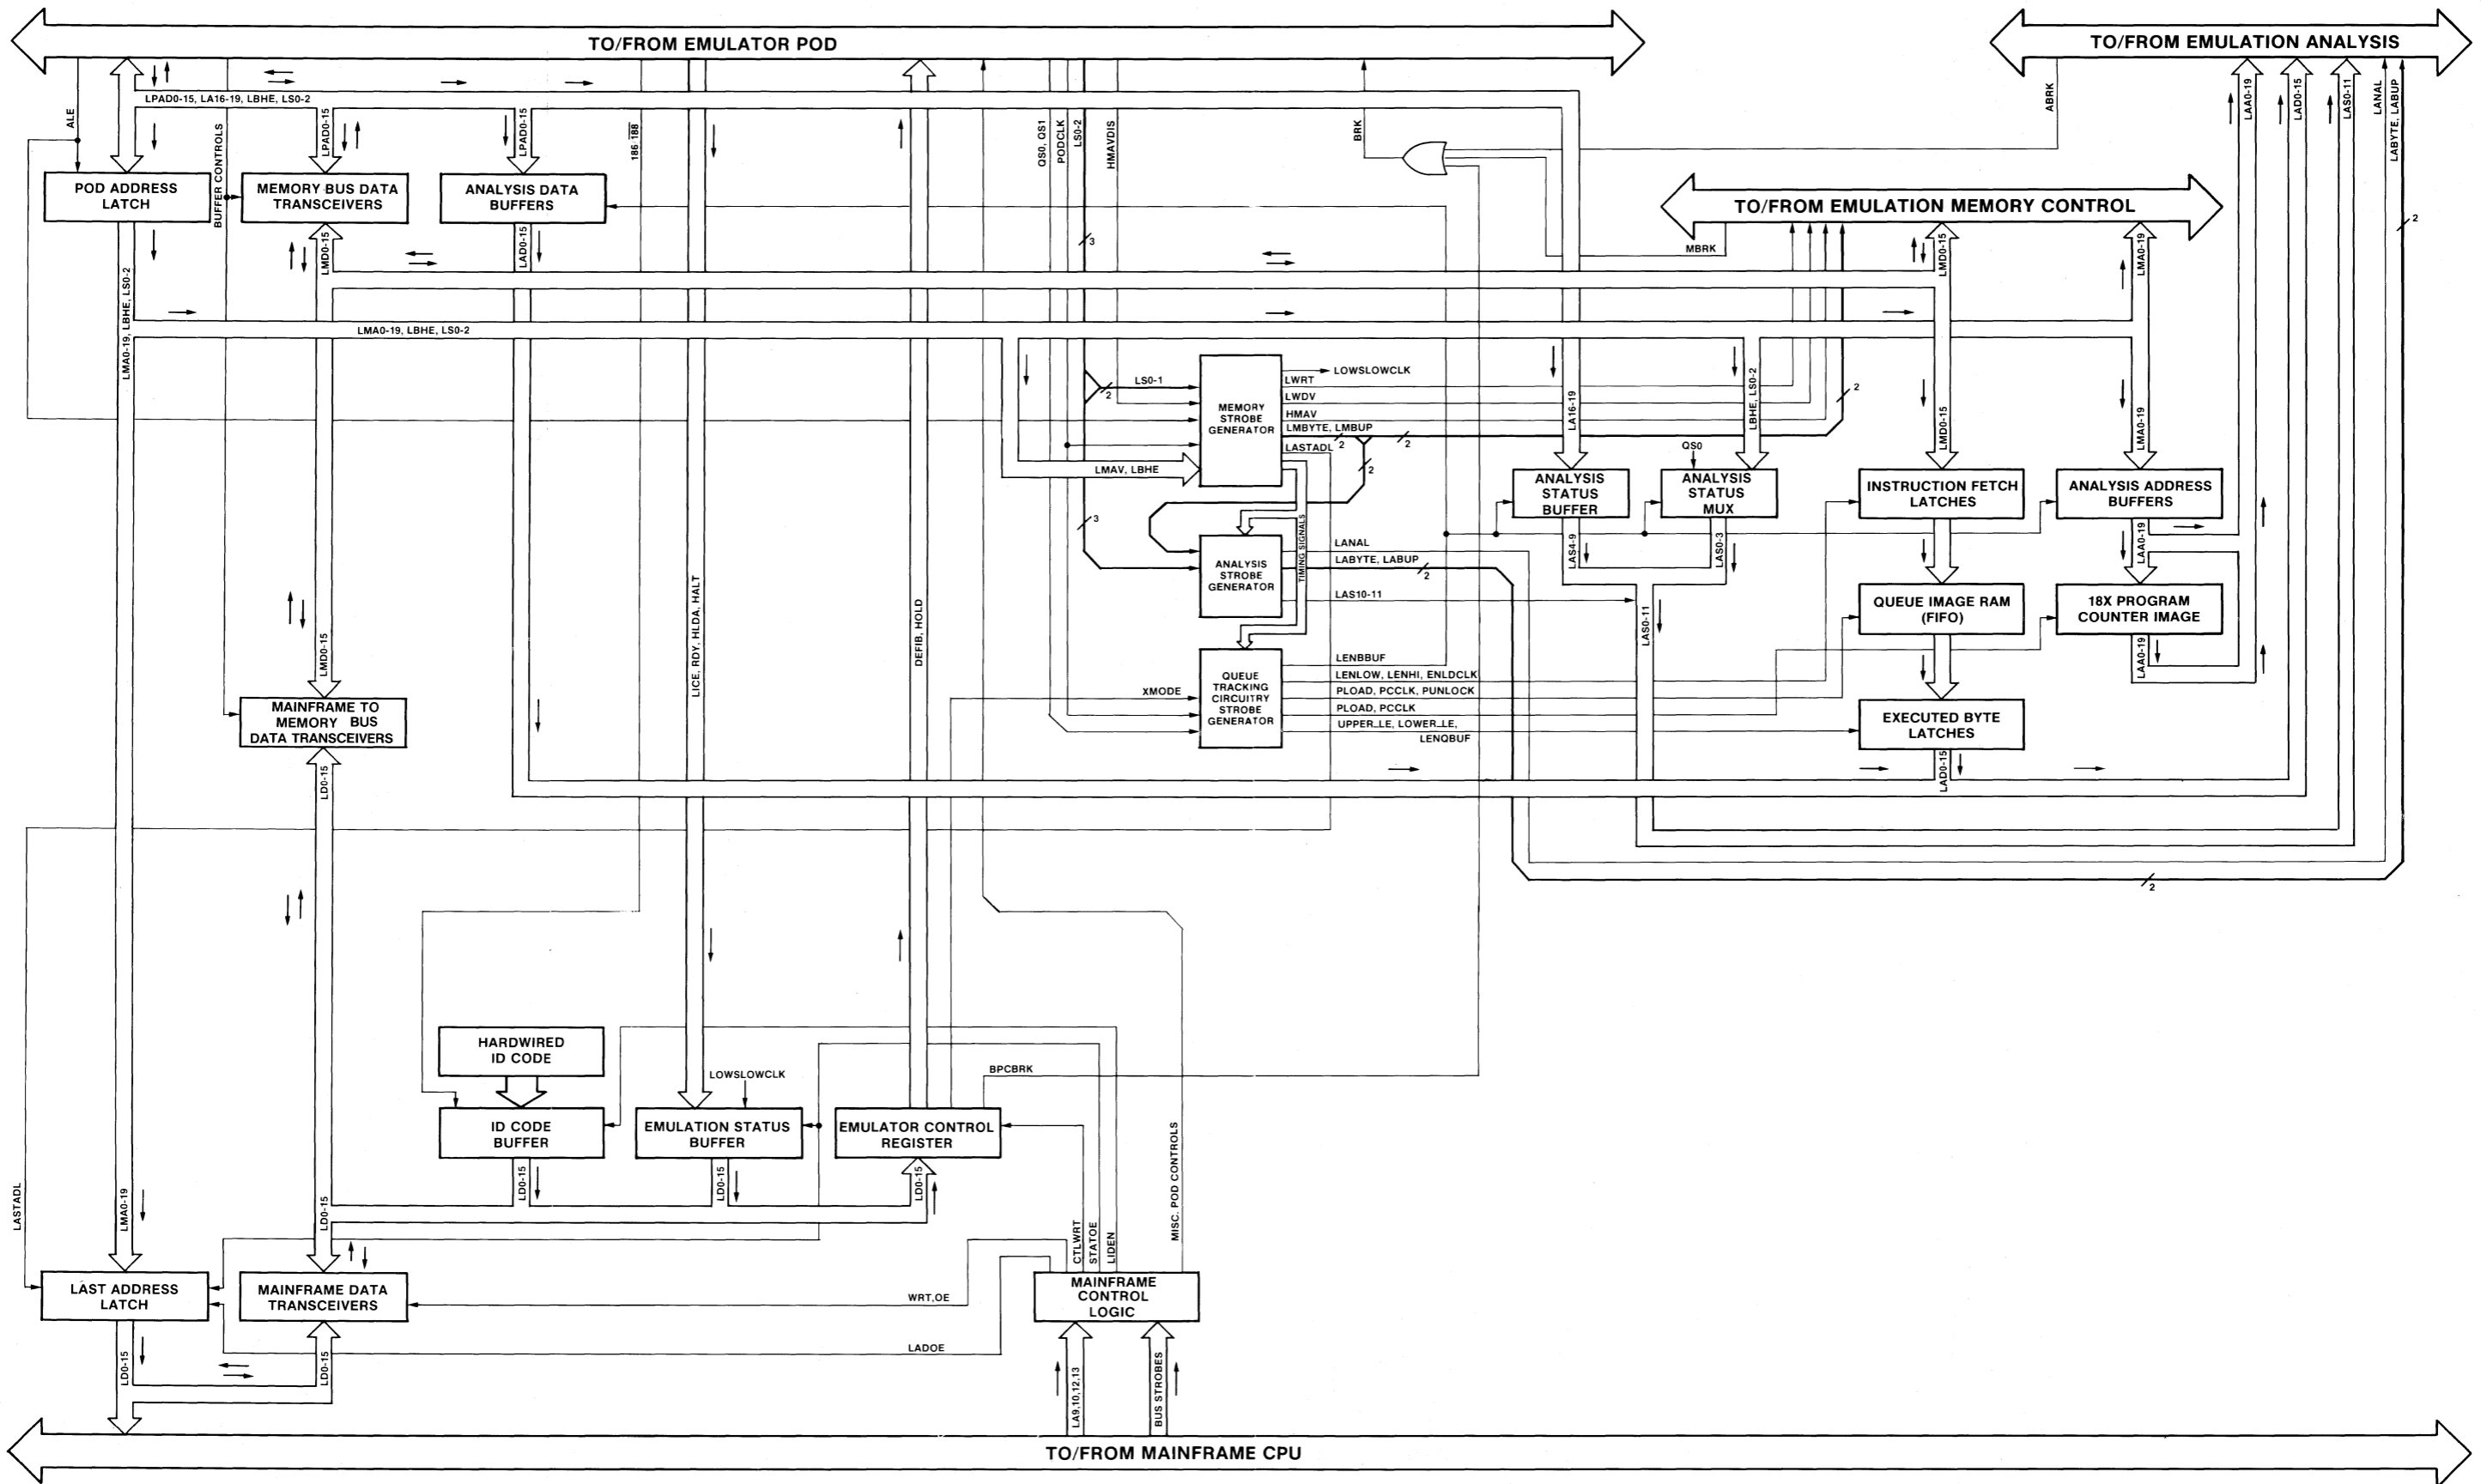

Figure 3-11.
**EMULATOR CONTROL CARD.** Figure 3-11 is a block diagram of the emulator control card.